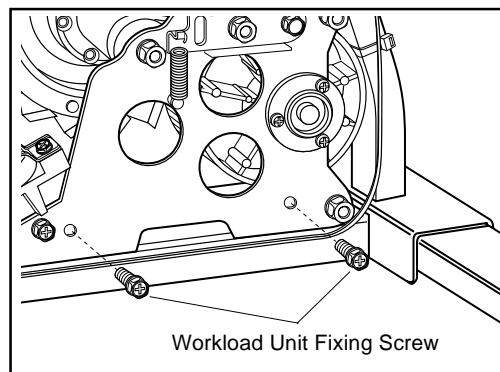

Fig. 7
6. Tighten the workload unit fixing screw (two screws on either right and left sides). (Fig. 7) The tightening torque is 90kg-cm to 120kg-cm.